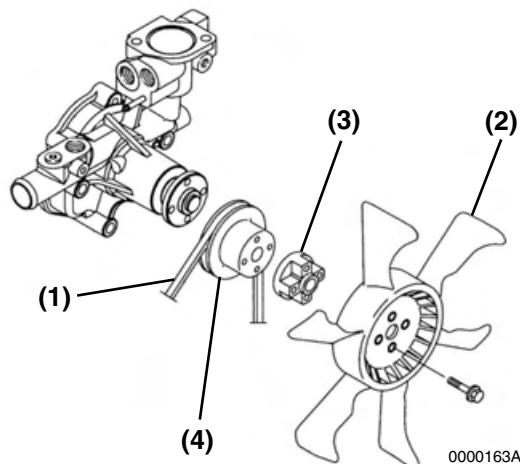

Figure 7-31
13. Reinstall the coolant pump V-pulley (**Figure 7-31, (4)**), spacer (**Figure 7-31, (3)**) (if equipped) and engine coolant fan (**Figure 7-31, (2)**).
14. Reinstall the cooling fan V-belt (**Figure 7-31, (1)**). Adjust it as described in *Check and Adjust Cooling Fan V-Belt* on page 5-21.